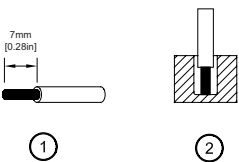

Figure 4
(1)	0.82 - 3.3	18-12	0.92	8.1
(2)	0.82 - 3.3	18-12	0.61	5.4
To secure reliable and shock proof connections, the stripping length should be 7 mm [0.28 in] (see Fig. 4 (1)). Please ensure that wires are fully inserted into the connecting terminals as shown in Fig. 4 (2).